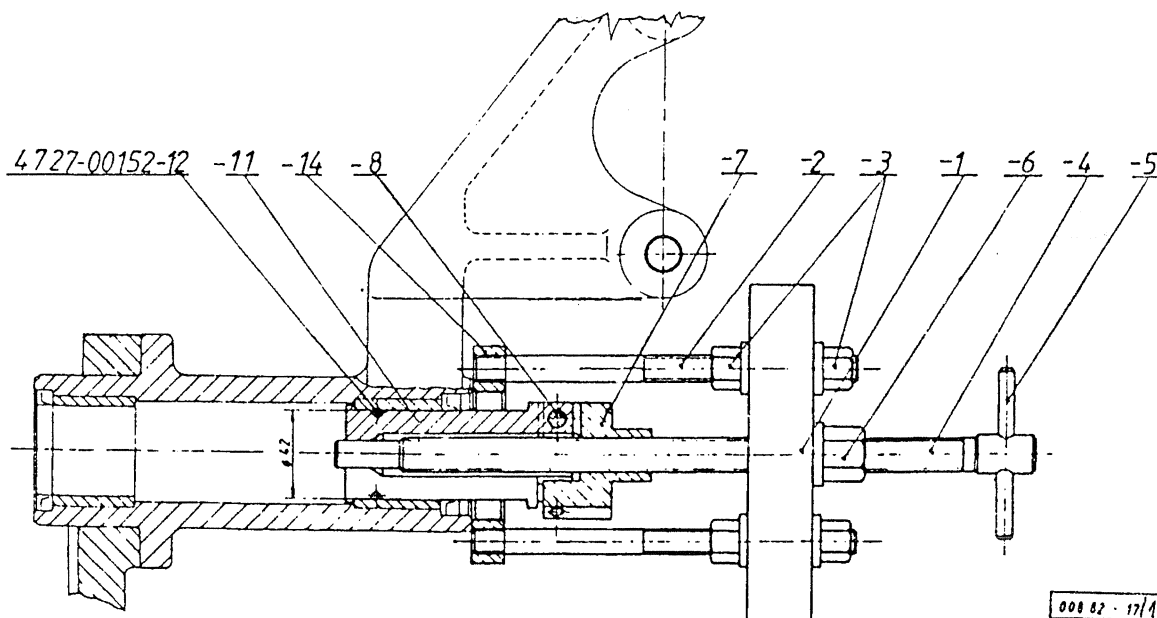

Fig. 1.: PULLING OUT THE BEARING BUSHINGS
By means of the tool shown pull the bearing bushings (9) out of the brake chamber holder (4). See Fig. 1.